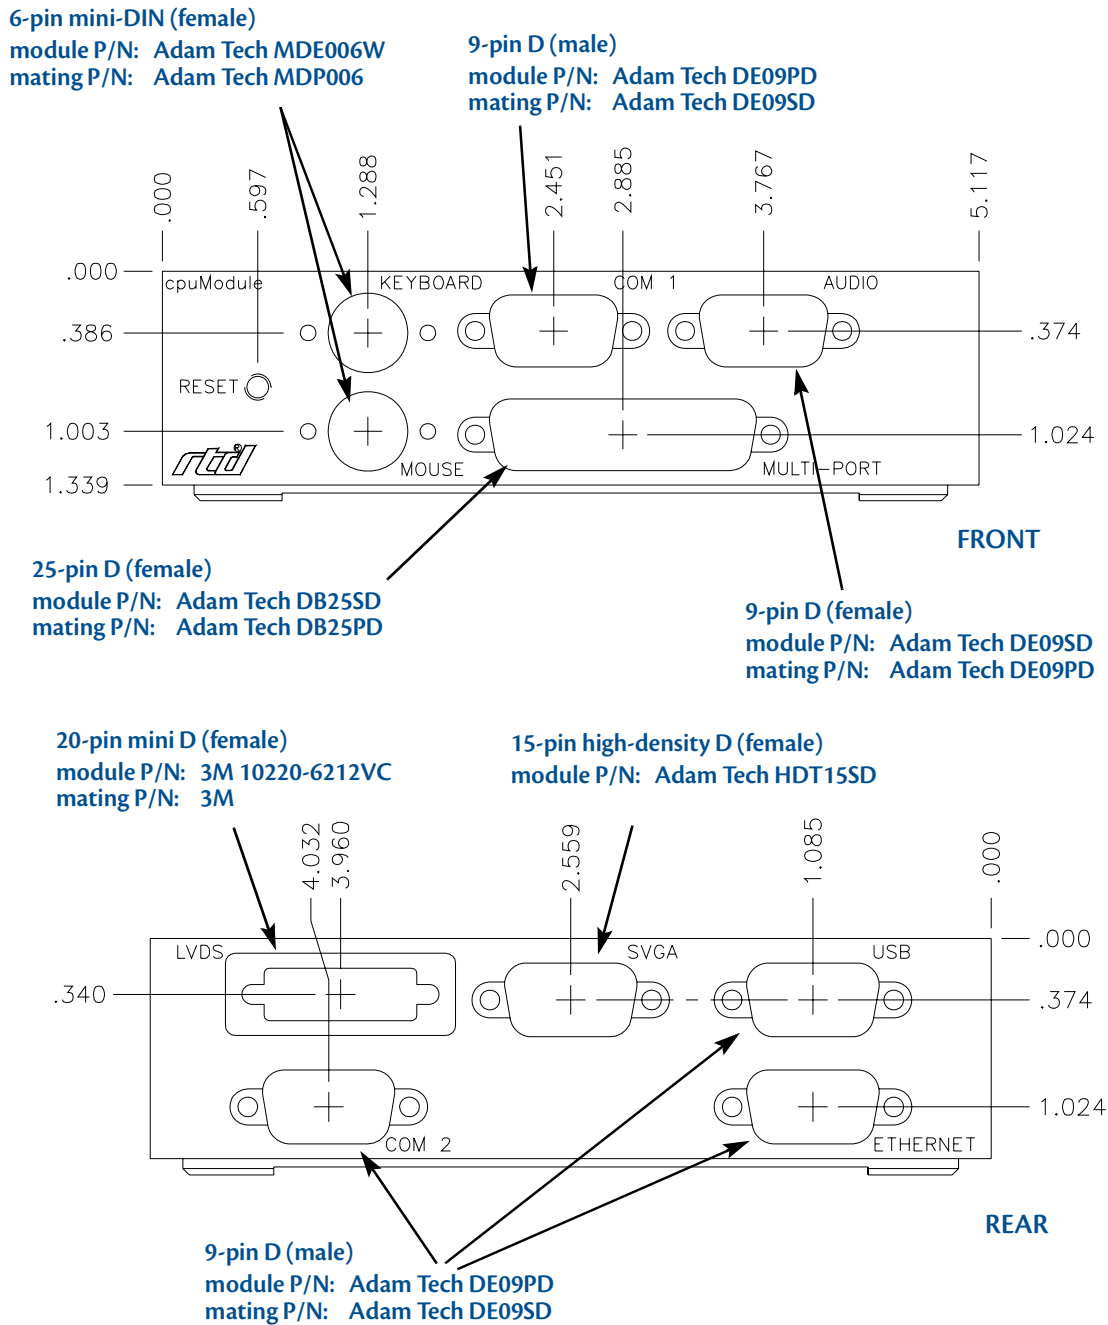

Figure 9 IDAN-CMX15886 Connectors¹
1. Heatsink fins (not shown in Figure 9) extend 0.75 inches from the sides of the IDAN frame.